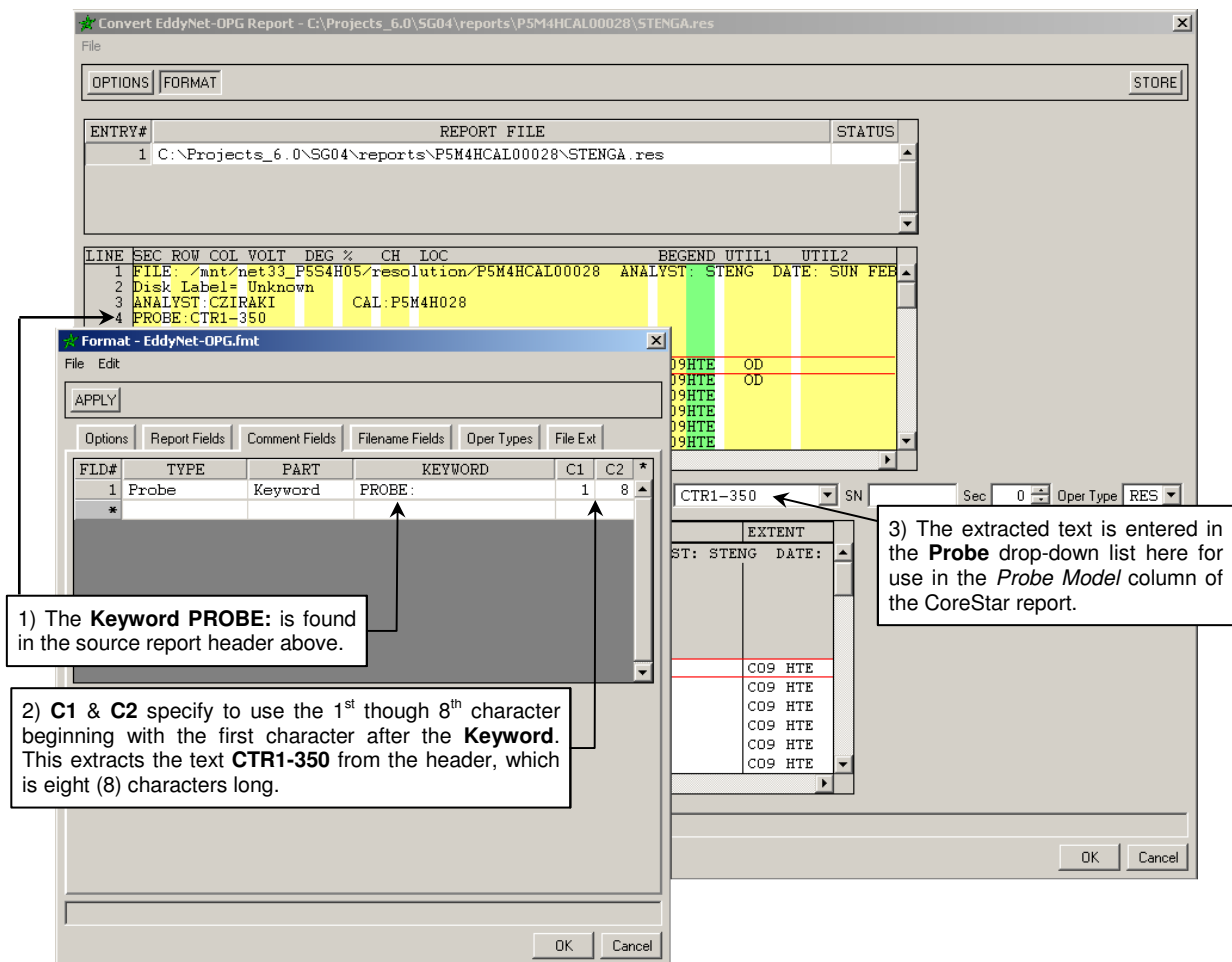

Figure 50. Util | Convert Report Dialog | Format Dialog | Comment Fields Tab
The **Comment Fields** tab on the **Format** dialog is shown in Figure 50. This interface allows the user to extract information from *Comment* lines in the source report. Examples of *Comment* lines include embedded headers and footers. The columns of the **Comment Fields** tab are discussed below.
- **Comments Fields Tab | Type** specifies the column of the CoreStar report where the extracted text from the source report will reside after conversion. Click or right-click a **Type** field to toggle through the available columns in a CoreStar report. For example in Figure 50, the information for the CoreStar report *Probe* column will be extracted beginning with the 1st character (**C1**) after the **Keyword** (*PROBE:*) and ending with the 8th character (**C2**) in the source report. The **C1** and **C2** values are inclusive.
- **Report Fields Tab | C1 & C2** specifies the beginning column of a range of the source report that will be used to fill the column specified in the **Type** field for a given **FLD#**. Click to increase by 1, Shift+click to increase by 10, Ctrl+click to increase by 100, and middle-click to reset to 1. Alternatively, right-click to decrease by 1, Shift+ right-click to decrease by 10, and Ctrl+ right-click to decrease by 100. For example in Figure 50, the information for the CoreStar report *Probe* column will be extracted beginning with the 1st character (**C1**) after the **Keyword** (*PROBE:*) and ending with the 8th character (**C2**) in the source report. The **C1** and **C2** values are inclusive.